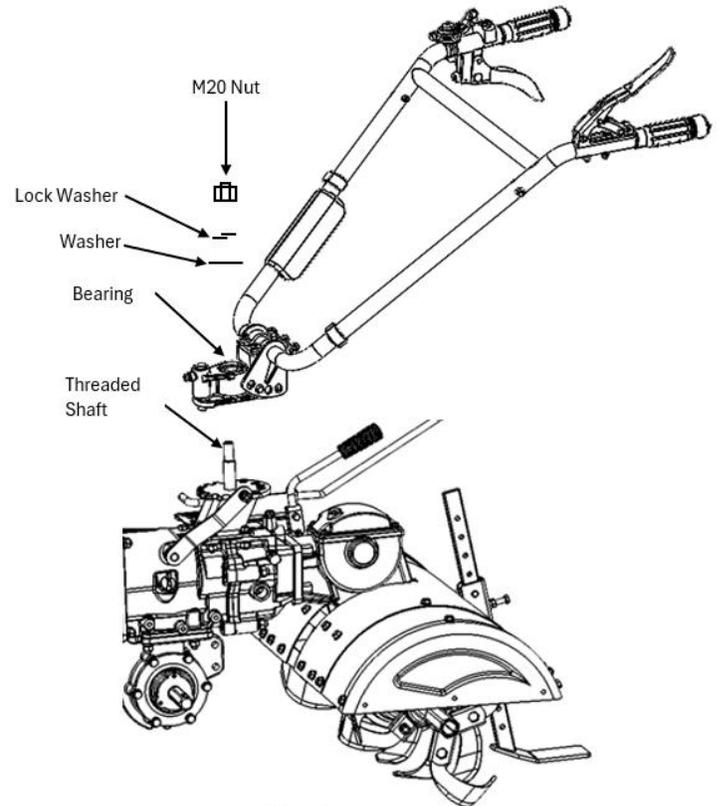

Figure 5
5. Install the M20 Nut using a 30mm Wrench or Socket, tighten securely. **(Figure 5)**